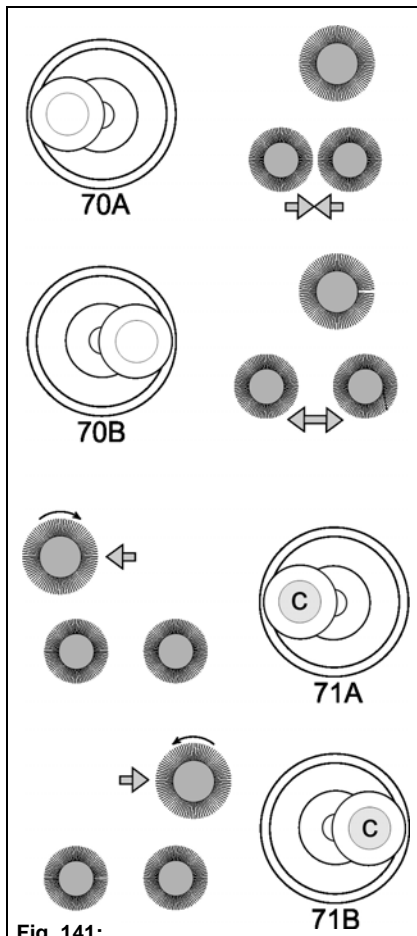

Fig. 141:
- Changeover to the left-hand side: Press the button **Fig. 141-C** and simultaneously move the joystick **Fig. 141-75 (A)** to the left. The 3rd rotating brush pivots to the left-hand side. The direction of rotation of the 3rd rotating brush is adjusted automatically.
- Changeover to the right-hand side: Press the button **Fig. 141-C** and simultaneously move the joystick **Fig. 141-75 (A)** to the right. The 3rd rotating brush pivots to the right-hand side. The direction of rotation of the 3rd rotating brush is adjusted automatically.